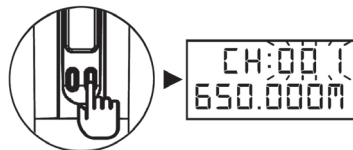

Figure 8
2. Press and hold the SET button for 3 seconds, then the upper-right channel number will flash to allow changes to be made (Fig 8).